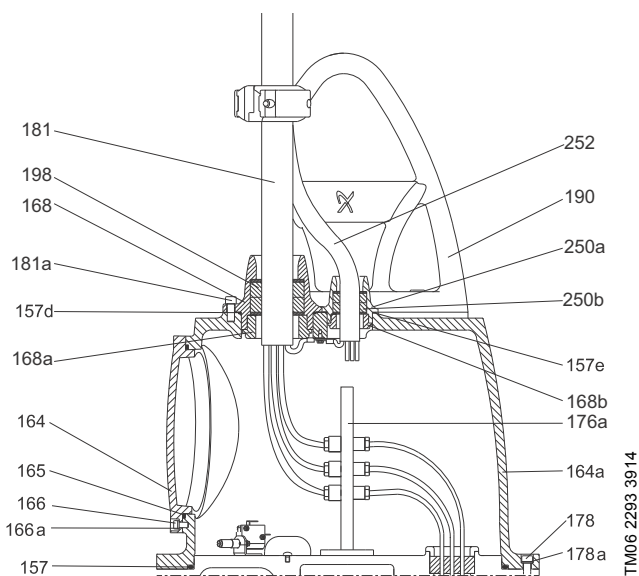

Fig. 42 Top cover details, KPL, KWM 650-1800
2. Remove the screw (pos. 178). See fig. 42.
3. Lift away the motor top cover (pos. 164a) by the lifting bracket (pos. 190).
4. Disconnect the moisture switch (pos. 520), the Pt100 bearing temperature sensor (pos. 288) and the PVS 3 (pos. 528) sensor wire from SM 113, if SM 113 fitted.
5. Loosen and remove the moisture switch, the Pt100 bearing temperature sensor and the PVS 3 sensor. See fig. 42.
6. Loosen and remove the terminal screws (pos. 176b).
7. Remove the terminal board (pos. 176a).